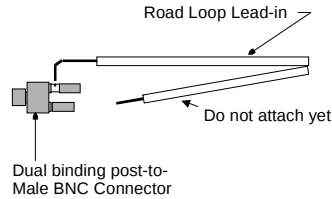

Figure 28 Attaching Road Loop wire to the post-to-BNC connector
- Step 5:** Insert the end of the Road Loop wire at the Activator into one side of a binding post-to-BNC connector (Figure 28). Tighten the binding post terminal to secure the lead.